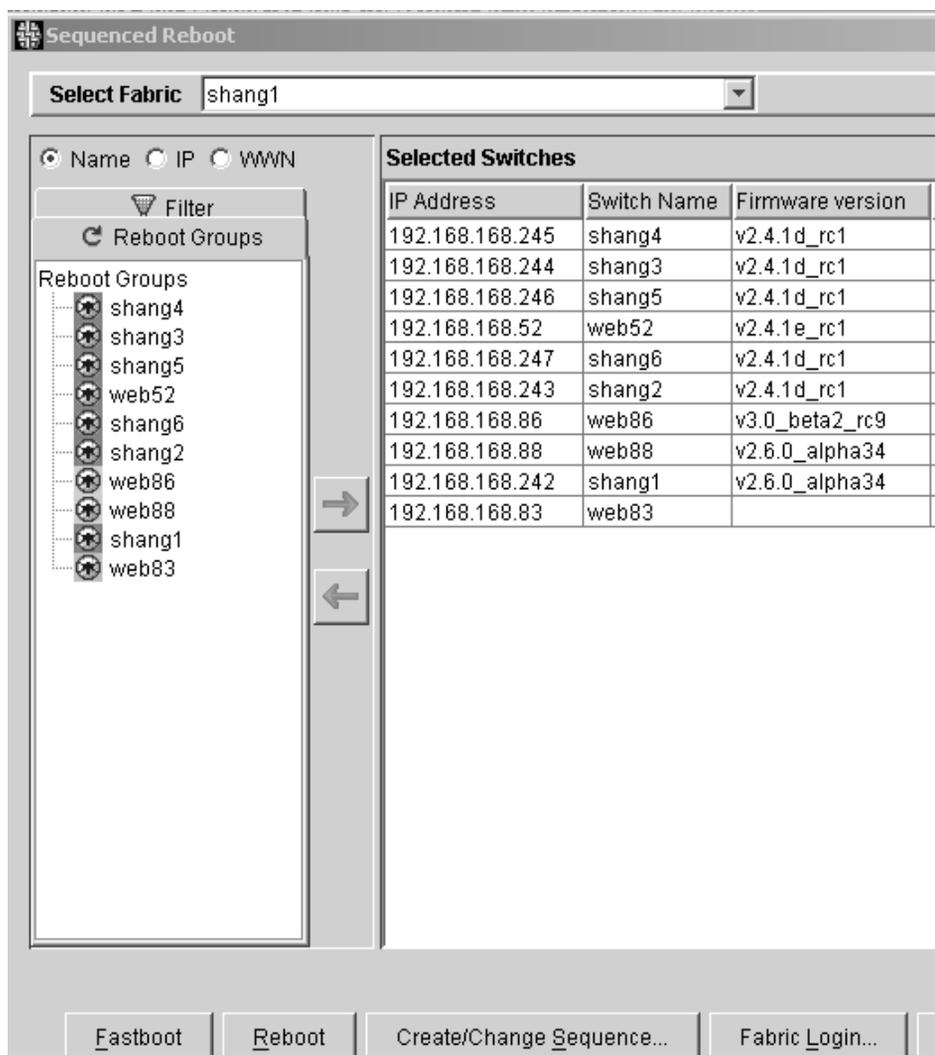

Figure 49: Sequenced Reboot dialog box
- Click **Login Setup** from the **Sequenced Reboot** dialog box, as shown in Figure 49.
Use the Sequenced Reboot dialog box to configure switches to reboot in a specified order. This prevents unexpected lapses in fabric availability. The Sequenced Reboot dialog box is shown in Figure 49.
2. Click **Sequence Reboot**. The **Sequence Reboot** dialog box displays, as shown in Figure 49.